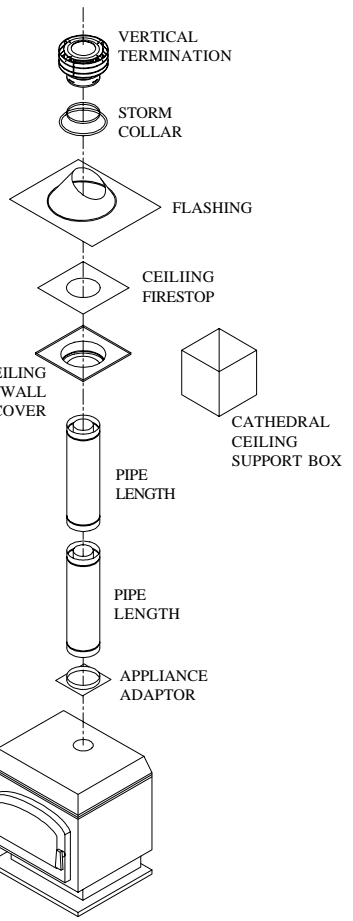

Fig 3
- Vertical Termination (Fig 3)